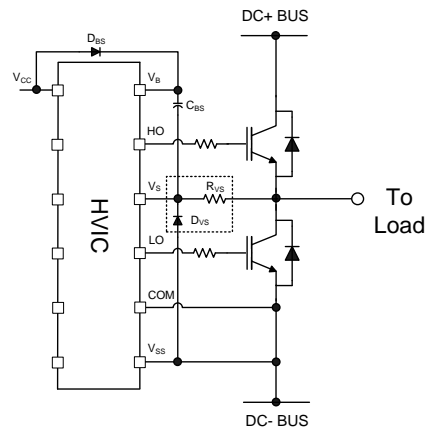

**Figure 31: Antenna Loops**
- **Gate Drive Loops:** Current loops behave like antennas and are able to receive and transmit EM noise (see Figure 31). In order to reduce the EM coupling and improve the power switch turn on/off performance, the gate drive loops must be reduced as much as possible. Moreover, current can be injected inside the gate drive loop via the IGBT collector-to-gate parasitic capacitance. The parasitic auto-inductance of the gate loop contributes to developing a voltage across the gate-emitter, thus increasing the possibility of a self turn-on effect.